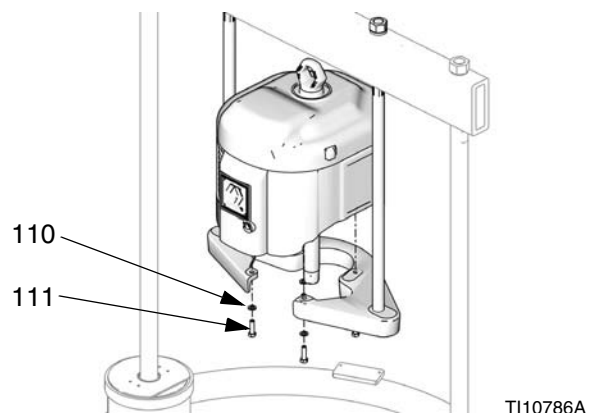

FIG. 25: NXT on D200 with Small Platen
4. Position mounting plate (109) to ensure top of motor will clear the crossbar. See FIG. 25. Using a capable hoist, attach motor to mounting plate (109) using screws (111) and washers (110).